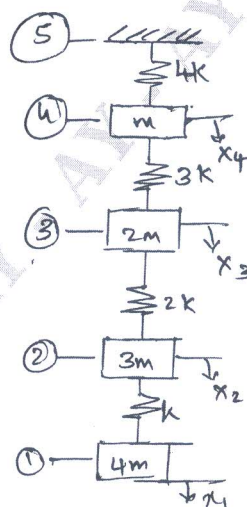

Fig. Q10
- 10 Using Holzer's method find the natural frequencies of the four mass system as shown in Fig. Q10, if $K = 1 \text{ N/m}$ and $m = 1 \text{ kg}$. (16 Marks)